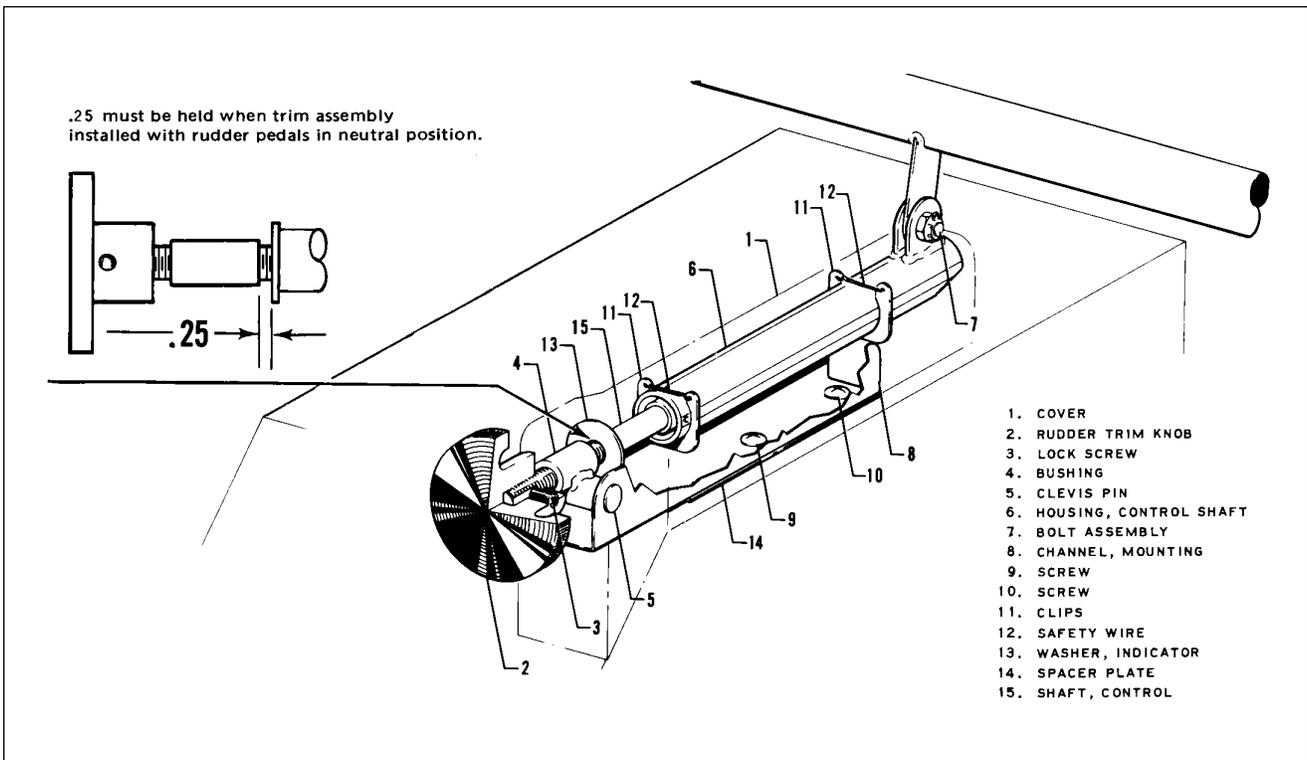

Figure 27-13. Rudder Trim Control
#### **REMOVAL OF RUDDER TRIM CONTROLS.** (Refer to Figure 27-13.)
**INSTALLATION OF RUDDER TRIM CONTROLS.** (Refer to Figure 27-13.)